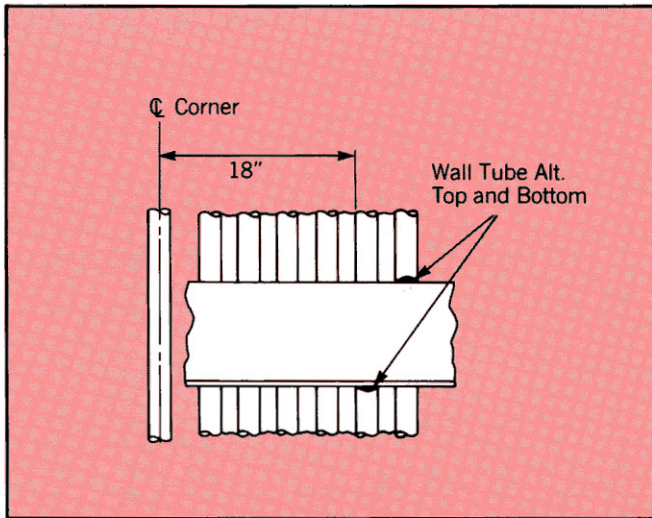

Figure 3 Tie bar or tie channel welds.
4. No weld between tie bars or tie channels closer than 18" to the corner. Weaken all welds by grinding flush with the bar or channel that are closer than the 18" limit. See Figure 3.